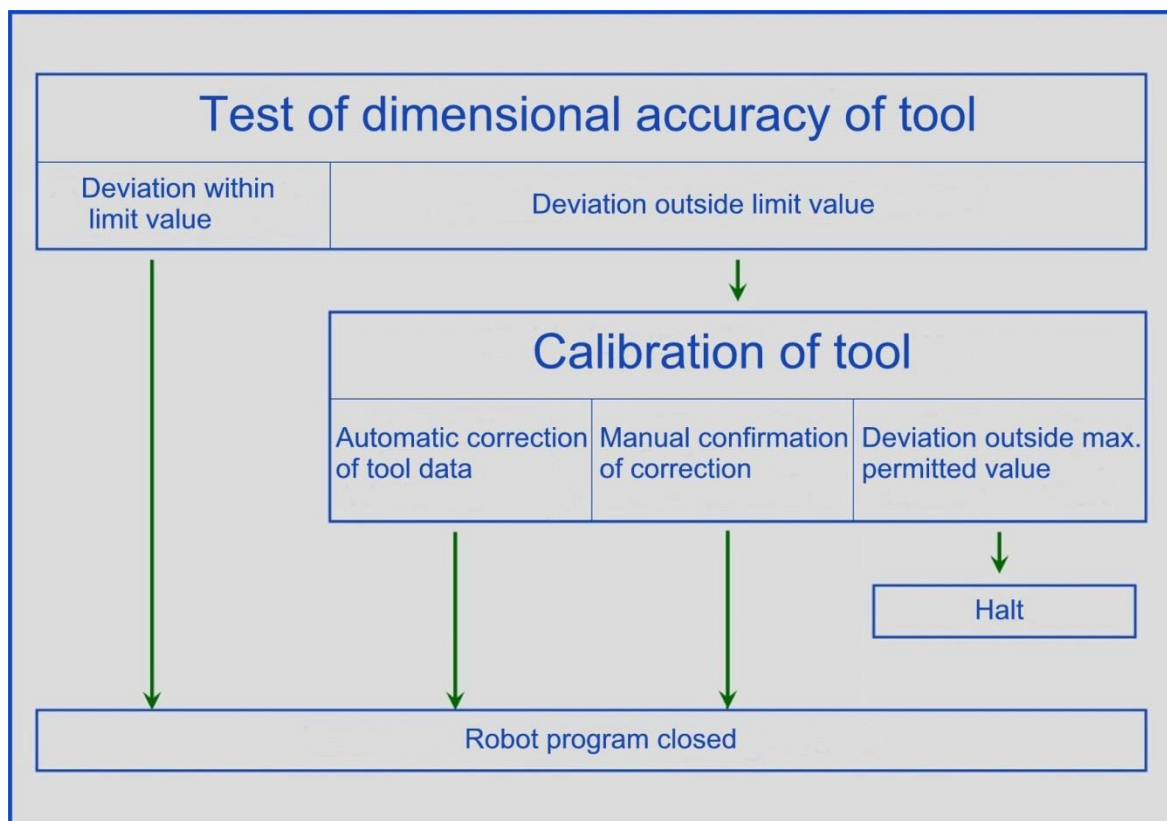

Figure 18: Schematic diagram of standard test
- Standard test: Test with possible correction of the tool data (see Figure 18).